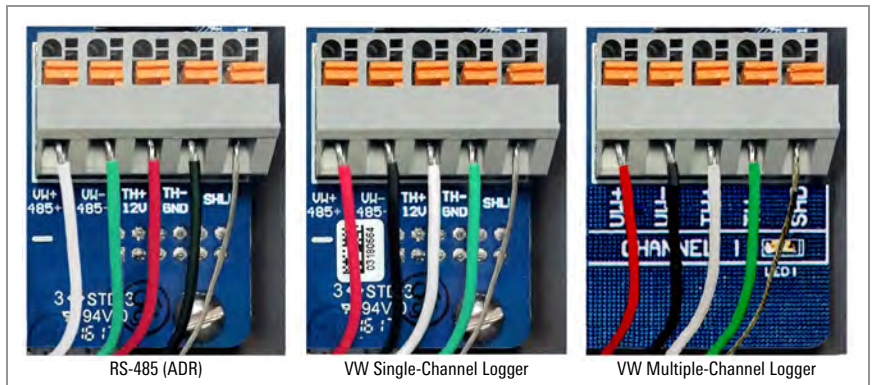

FIGURE 20: Terminal Connections
3. Insert the lead wires into the terminal block as shown in Figure 20 and Table 6. Press down on the orange tab, insert the bare end of the wire into the terminal block, and then release the tab.